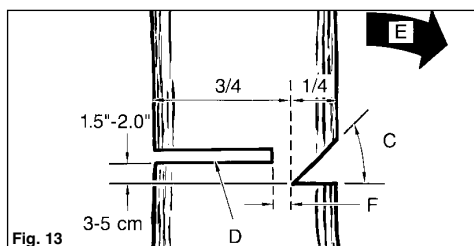

Fig. 13
(Fig. 13):
⚠WARNING: Never walk in front of a tree that has been notched. Make the felling cut (D) from the other side of the tree and 1.5 - 2.0 inches (3-5 cm) above the edge of the notch (C) (Fig. 13)